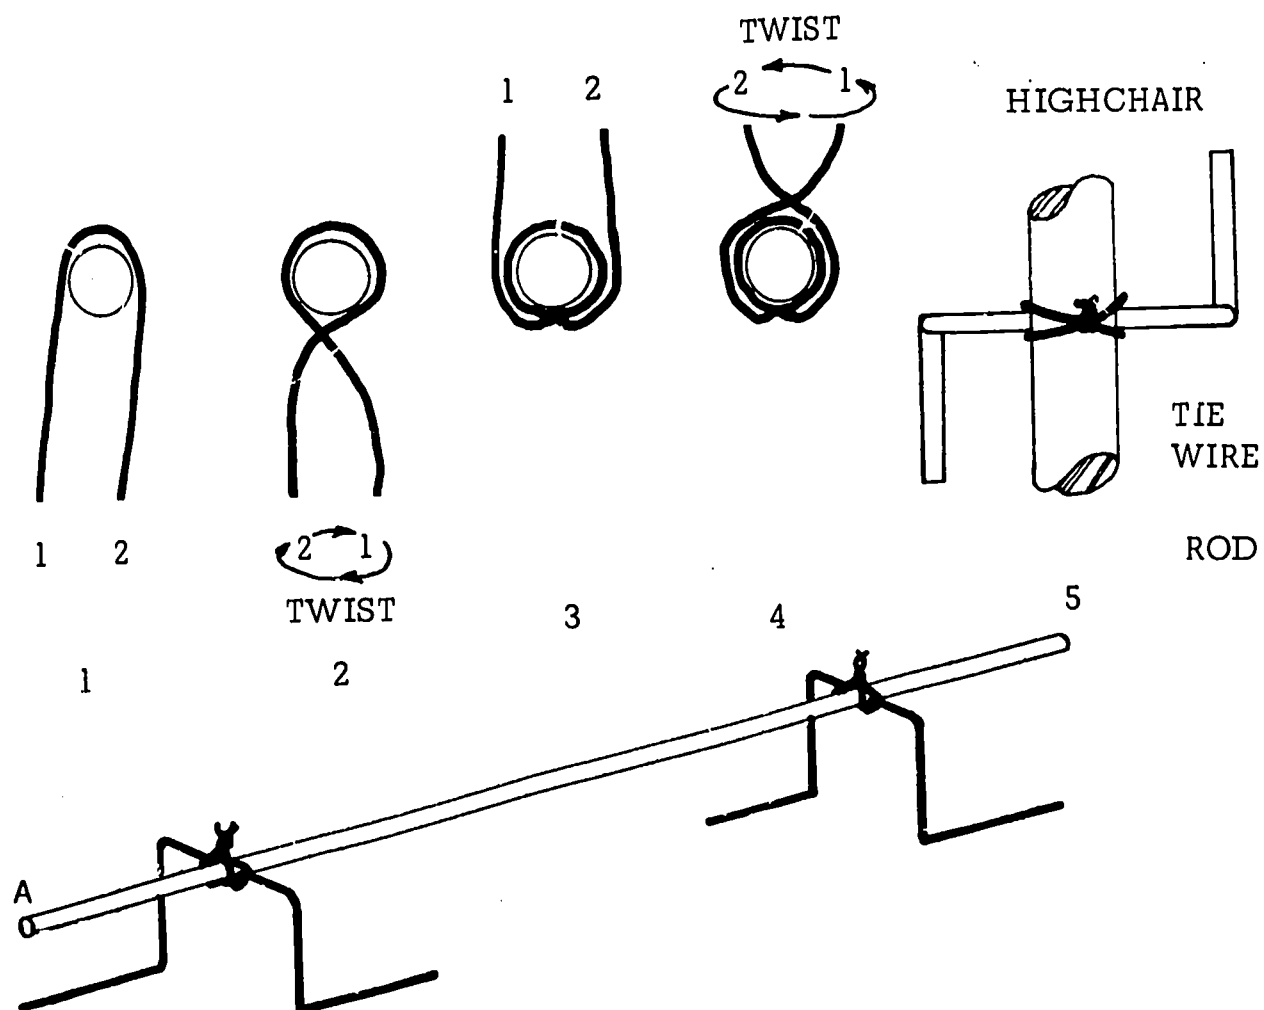

Fig. 39-4. Tying Rod
9. Set the reinforcement rod A on the highchairs and tie. See Fig. 39-4.
12. Tie the rods in place. See Fig. 39-4.
6. Locate and tie both column rods to the footing reinforcement. See Fig. 39-6 and Fig. 39-4.